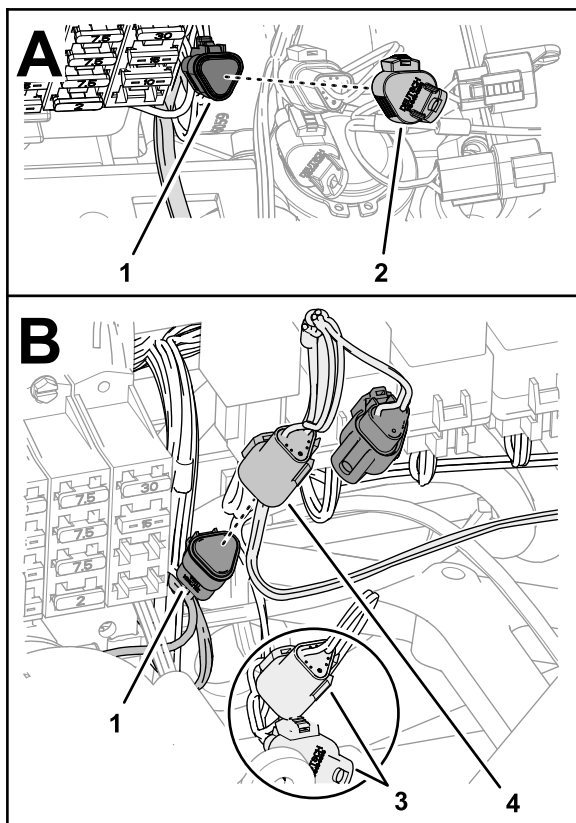

Figure 203
1. At the fuse block, remove the cap from the 3-socket connector labeled CAN BUS DIAGNOSTICS of the machine wire harness (Figure 203).
2. Plug the 3-pin connector labeled TO TORO CANBUS of the ISO-CAN bus harness into the 3-socket connector labeled CAN BUS DIAGNOSTICS of the machine wire harness (Figure 203).